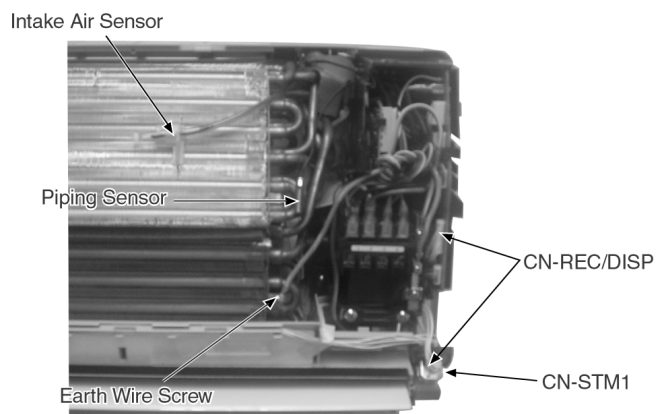

Fig. 5
- a. Release the Earth Wire screw. (Fig. 5)
- b. Release the Intake Air Sensor. (Fig. 5)
- c. Release the Piping Sensor. (Fig. 5)
- d. Release the CN-REC/DISP connectors. (Fig. 5)
- e. Release the CN-STM1 connector. (Fig. 5)